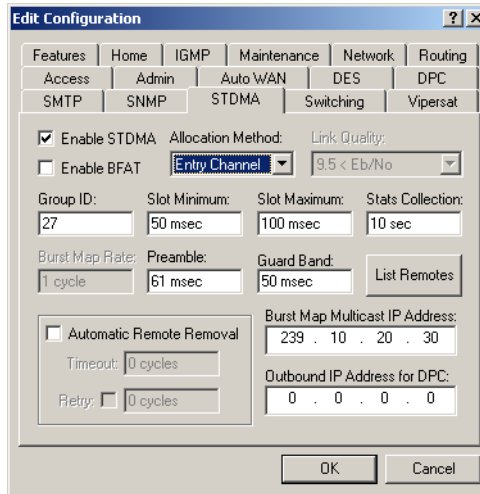
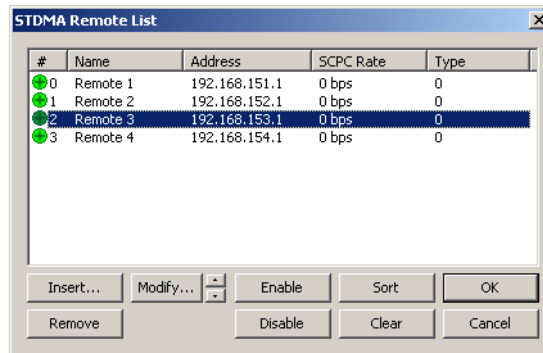

Figure G-3 STDMA tab with ECM mode, CDM-570/570L
Figure G-4 STDMA remote list tab, CDM-570/570L
Figure G-3 shows the STDMA tab for the CDM-570/570L set up to run in Entry Channel mode. Once a switch has occurred in an ECM enabled VMS controlled modem the unit no longer sends switch requests so VMS does not have a switch request to respond to switch the VMS controlled modem back to STDMA from ECM mode.
1. Click the **List Remotes** button on the **STDMA** tab shown in figure G-3 to display the pop-up **STDMA Remote List** shown in figure G-4.
2. From the **STDMA Remote List**, select the CDM-570/570L you wish to switch from ECM mode running in SCPC to STDMA mode as shown in figure G-4.